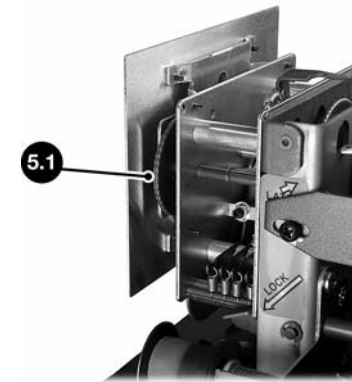

Figure 5
3. Rotate the Clock Face Setting Wheel - **Figure 5, 5.1** to set the hands to match the time set on the wheels.
**DO NOT TURN THE CLOCK HANDS EXCEPT BY USING THE SETTING WHEEL - Figure 5, 5.1.**